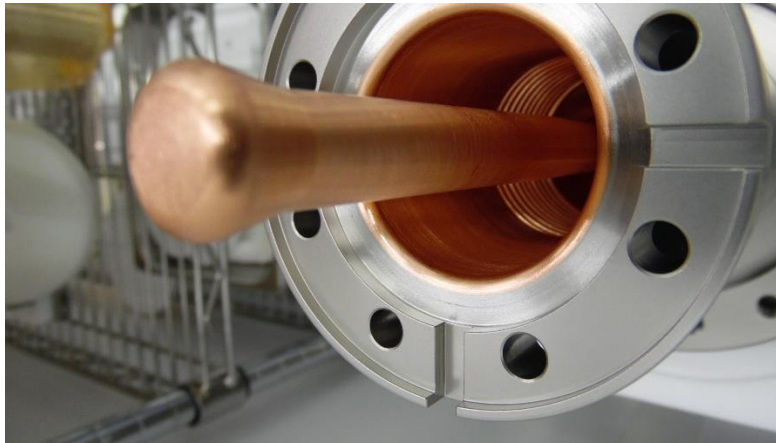

Figure 7.4: Sealing surface of the FPCC cavity flange
- 7.3.3. Visually inspect the cavity flange sealing surface (Figure 7.4). Generate an NCR if there are any traces of the AlMg seal or any scratches or residue